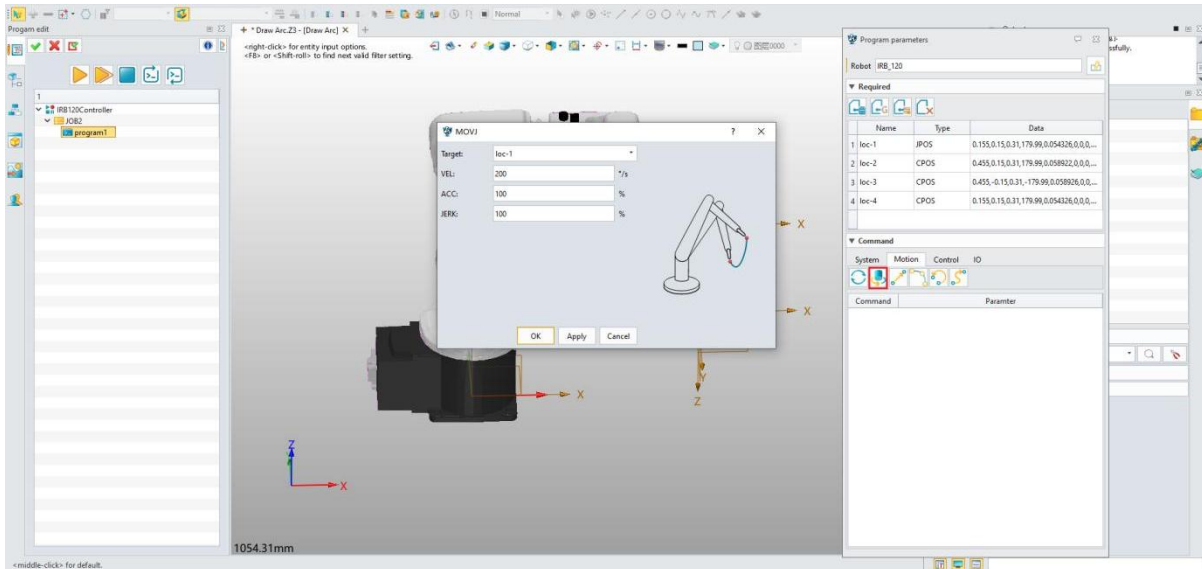

Figure 9-13: MOVJ
- Add MOVJ Command: In the "Program Parameters" window, select the "MOVJ" in the Motion command, add the MOVJ instruction, and set the parameters as shown in the figure. The target point is loc-1, and other parameters remain default. Click OK. (Figure 9-13)